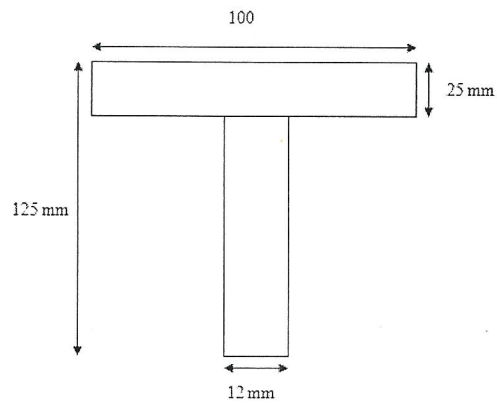

Figure Q7(c)
- Q7** (a) Give **four (4)** examples of composite beam. (4 marks)
- (c) A cross-sectional area of the beam is shown in **Figure Q7(c)**. If the limiting bending for the material of the beam are 160 MPa in torsion and 80 MPa in compression. Find length of the beam, L if the beam is simply supported at both ends with uniform distributed load along the beam of 3 kN/m. (10 marks)